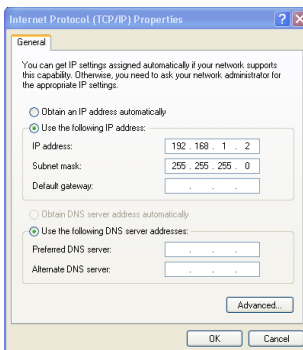

Figure 24: Internet Protocol (TCP/IP) Properties Window
6. Select Use the following IP Address, and fill in the details as shown in Figure 24. You can use any IP address in the range 192.168.1.1 to 192.168.1.255 (excluding 192.168.1.39) that is provided by your IT department.